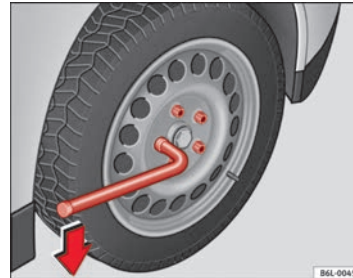

Fig. 136 Changing a wheel: loosen the wheel bolts
- Grasp the box spanner by the end turn it about one full turn to the **left** ⇒ Fig. 136.